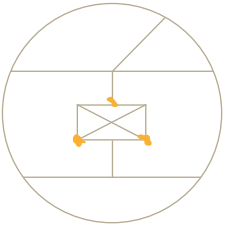

Figure 15: Joint princip - Glued joint across the centre line.
- ⚠ To glue the end joint, apply the glue to the end of the plank and to the tongue that has already been glued down – break off the line of glue 5-10 mm from each plank joint. Never apply glue to the long sides of floor planks. See figure 15.